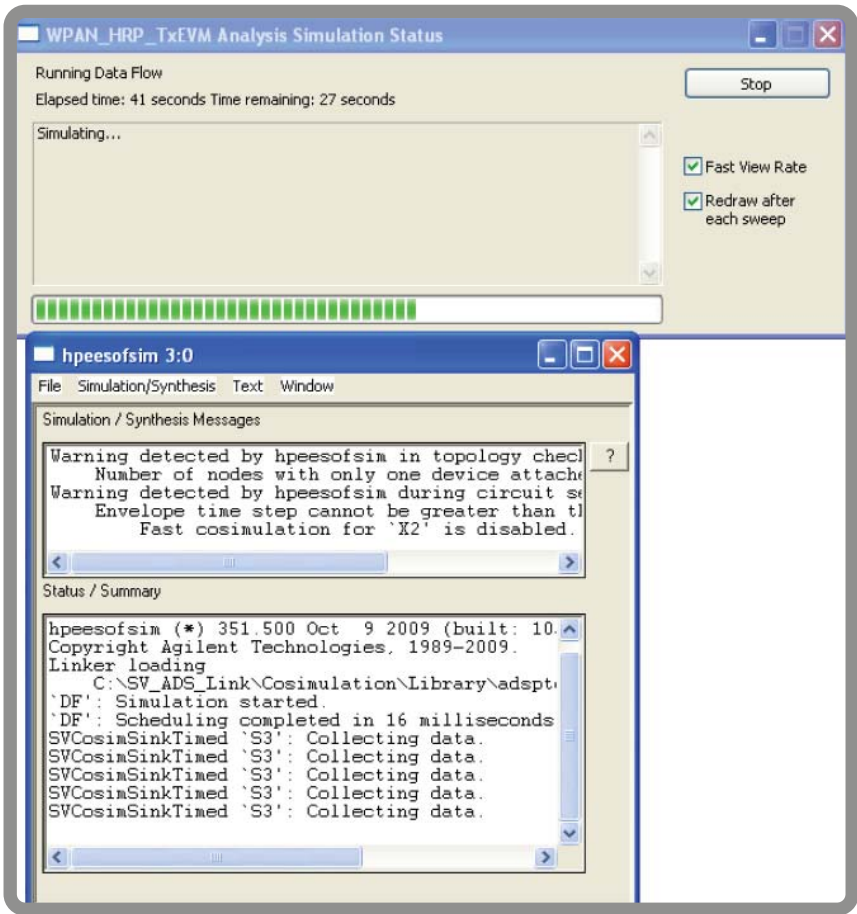

Figure 8. Depicted here are the SystemVue and ADS simulation status window, after connection is made.
- Next, run the ADS Ptolemy simulation. Once it connects to the SystemVue session, the SystemVue simulation status window will change to an active status. Both simulations will now run to completion (Figure 8).